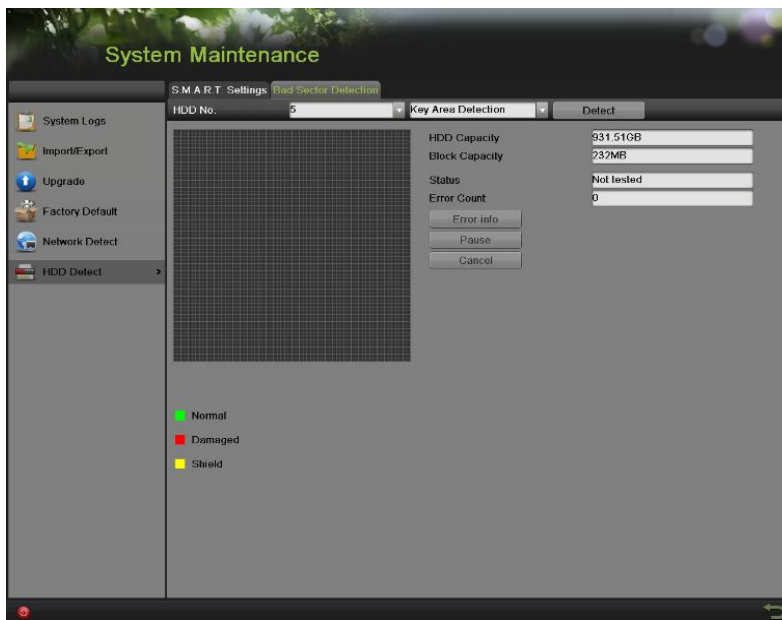

Figure 160 Bad Sector Detection Interface
2. Select the Bad Sector Detection tab, as shown in Figure 160.